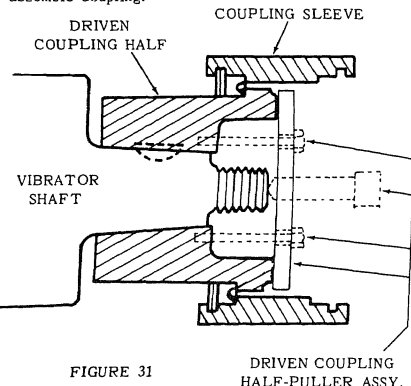

FIGURE 31
... ace puller in hub of coupling half (E), figure 31.. In-